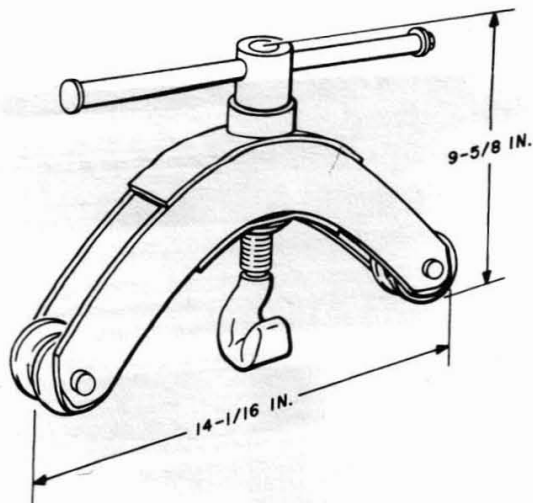

Fig. 2—E Slack Puller
**3.02** The E slack puller (Fig. 2) is similar to the F slack puller except that it is operated by a sliding removable handle instead of a ratchet.